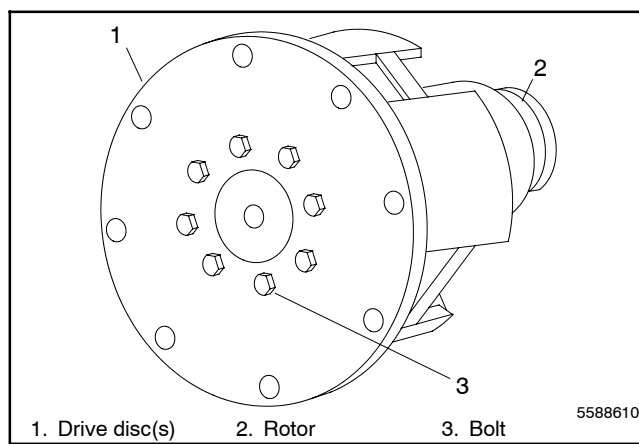

Figure 4-14 Drive Disc(s)
19. Clamp the rotor in a soft-jaw vise. Remove the eight bolts and remove the drive disc assembly from the rotor. See Figure 4-14.